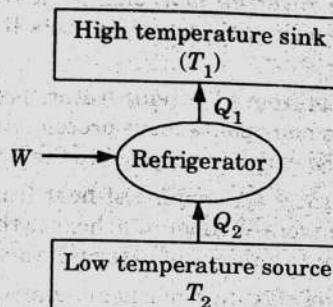

Fig. 2.17.2. A schematic diagram of a refrigerator.
4. The desired effect of a refrigerator, under a steady state, is to pump out the heat in the same rate as is infiltrating into the system (Q_2) and in order to do so, the refrigerator or an air conditioner takes up W amount of external work (Fig. 2.17.2).